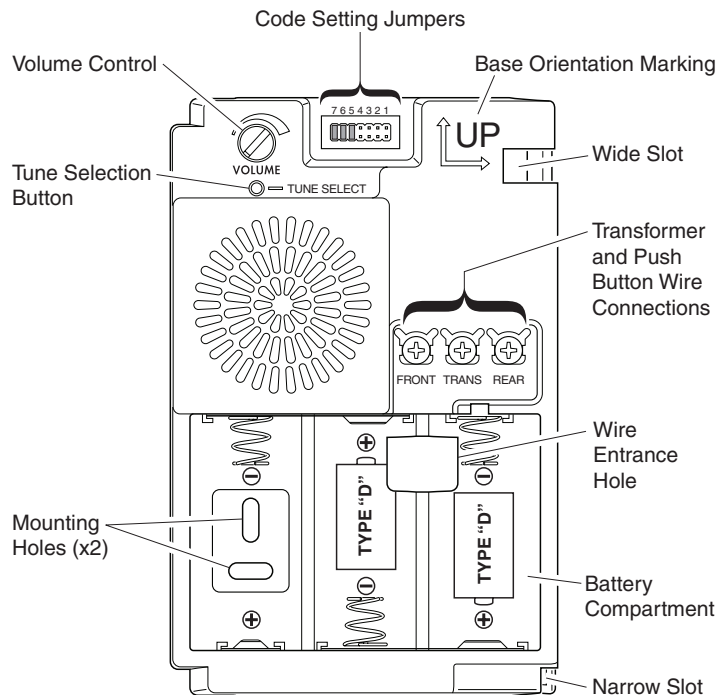

Figure 3
6. Determine proper chime base orientation (one arrow should be pointing up). The chime cover style may determine orientation (see Figure 3).